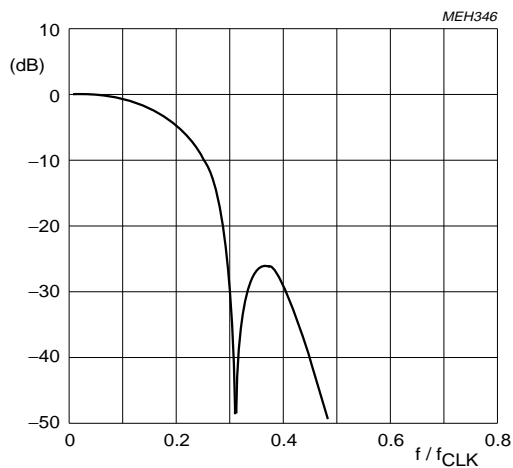

Fig.4 Transfer characteristics of
1. Decimation for 4 : 4 : 4 format input data (formats 4, 5 and 7; Fig.4).